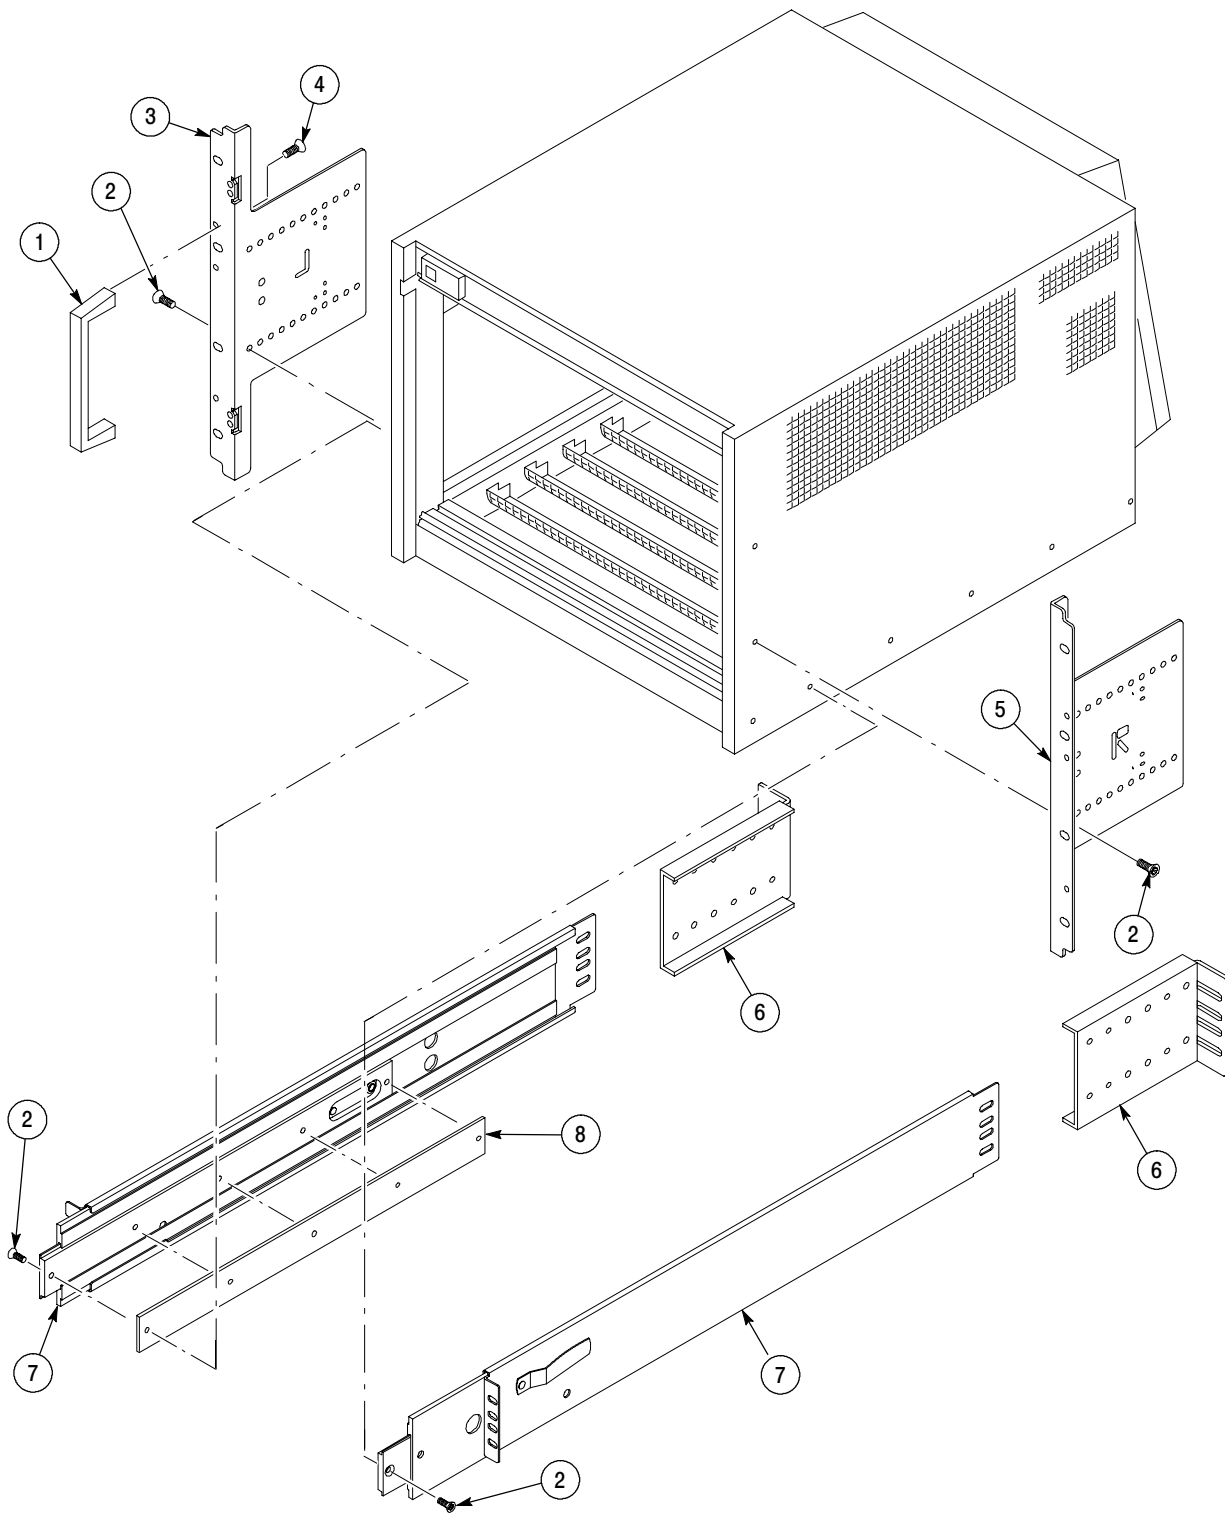

Figure 6: Rackmount assembly
5. Attach the left and right inside tracks to the sides of the mainframe using five 8-32 flathead screws. Add a spacer plate between the left track and mainframe (refer to item 8 in Figure 6 on page 13). Orient the button latch so that it faces away from the mainframe and toward the rear.